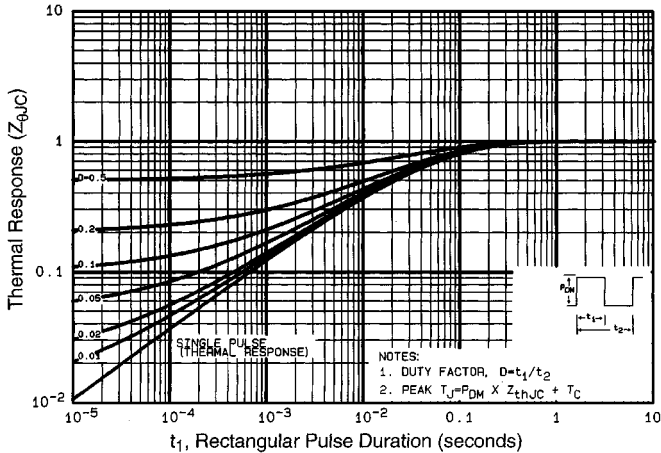

Fig 11. Maximum Effective Transient Thermal Impedance, Junction-to-Case
① Repetitive rating; pulse width limited by max. junction temperature (See Figure 11)
② V_{DD}=-50V, starting T_J=25°C, L=8.7mH